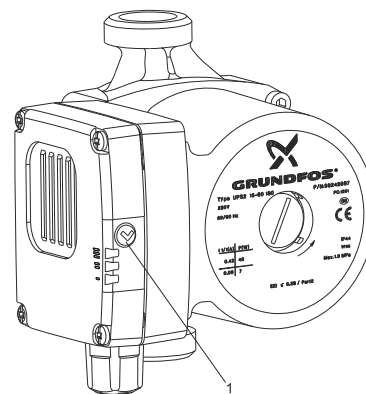

Fig. 10 Push-button position
UPS2 has a push-button (pos. 1) for selection of pump setting and light fields for indication of the selected pump setting. See fig. 10.